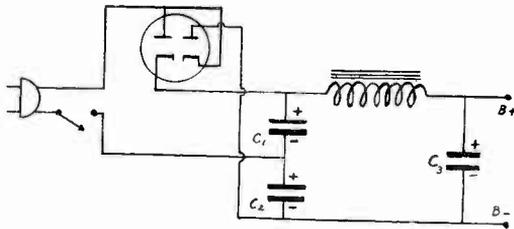

Fig. 9. This full-wave voltage doubler does not have the same reference points as the half-wave type shown in Fig. 8.
**WARNING.** If the voltage-doubler circuit is like Fig. 9, instead of Fig. 8, then the switch will not connect to B—nor can the negative lead of filter condenser  $C_1$  be used as a reference point. You will have to make use of the cathode of the tube in the defective stage or find the negative side of filter condensers  $C_2$  or  $C_3$ .